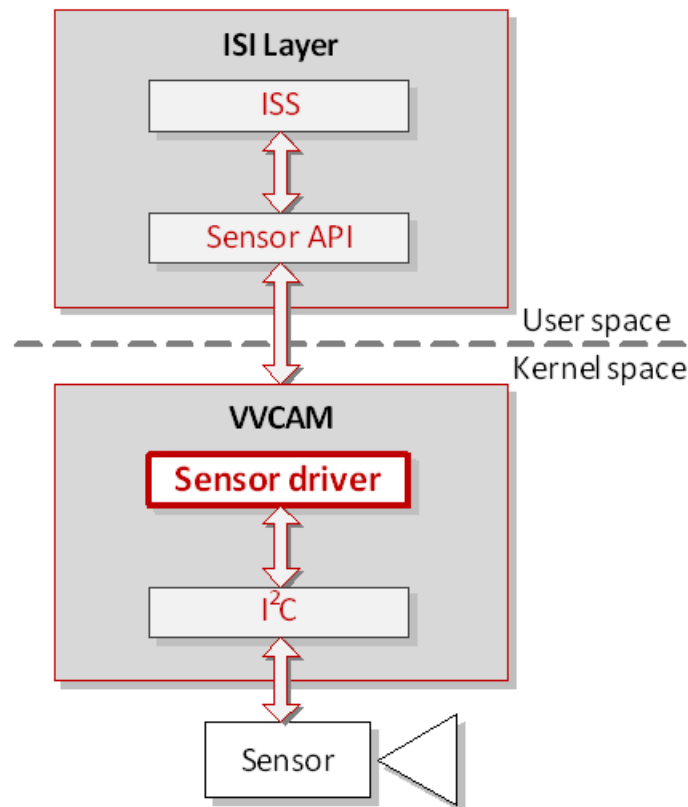

Figure 2. Sensor Module in Linux Kernel
1. **Sensor Module in Linux Kernel:** I2C is called in the kernel to read and write the sensor register as shown in Figure 2 below.